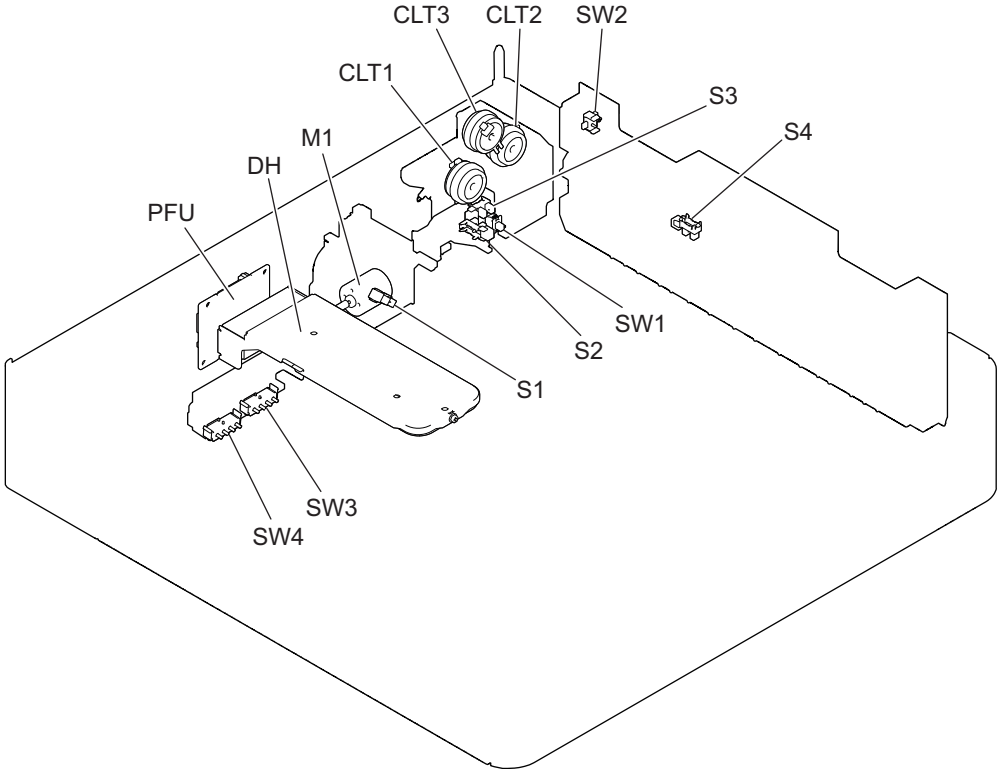

Fig. 2-3
| M1 | Tray-up motor | Lifts up the tray in the drawer. | 2.3 Electric Parts Layout | Fig. 2-3 | 3-34 |
| S1 | Paper nearly empty sensor | Detects the paper remaining level in the drawer. | 2.3 Electric Parts Layout | Fig. 2-3 | 3-37 |
| S2 | Paper empty sensor | Detects the paper loading level in the drawer. | 2.3 Electric Parts Layout | Fig. 2-3 | 2-3 |
| S3 | Drawer tray-up sensor | Detects the lifting status of the tray in the drawer. | 2.3 Electric Parts Layout | Fig. 2-3 | 2-3 |
| S4 | Paper feed sensor | Detects paper transportation and paper misfeeding. | 2.3 Electric Parts Layout | Fig. 2-3 | 4-23 |
| SW1 | 2nd drawer detection switch | Detects the drawer. | 2.3 Electric Parts Layout | Fig. 2-3 | 2-23 |
| SW2 | Jam access cover opening/closing switch | Detects the opening and closing status of the jam access cover. | 2.3 Electric Parts Layout | Fig. 2-3 | 4-25 |
| SW3 | 2nd drawer paper width detection switch | Detects the paper width. | 2.3 Electric Parts Layout | Fig. 2-3 | 2-1 |
| SW4 | 2nd drawer paper length detection switch | Detects the paper length. | 2.3 Electric Parts Layout | Fig. 2-3 | 2-1 |
| CLT1 | Paper feed clutch | Controls the transmission of the driving force of the pickup roller and the paper feed roller. | 2.3 Electric Parts Layout | Fig. 2-3 | 3-12 |
| CLT2 | Transport clutch (H) | Drives the paper feed roller (high speed). | 2.3 Electric Parts Layout | Fig. 2-3 | 3-12 |
| CLT3 | Transport clutch (L) | Drives the paper feed roller (low speed). | 2.3 Electric Parts Layout | Fig. 2-3 | 3-12 |
| DH | Drawer damp heater | Prevents condensation inside the drawer (JPD only). | 2.3 Electric Parts Layout | Fig. 2-3 | - |
| PFU | PFU PC board | Controls the PFU. | 2.3 Electric Parts Layout | Fig. 2-3 | 2-34 |